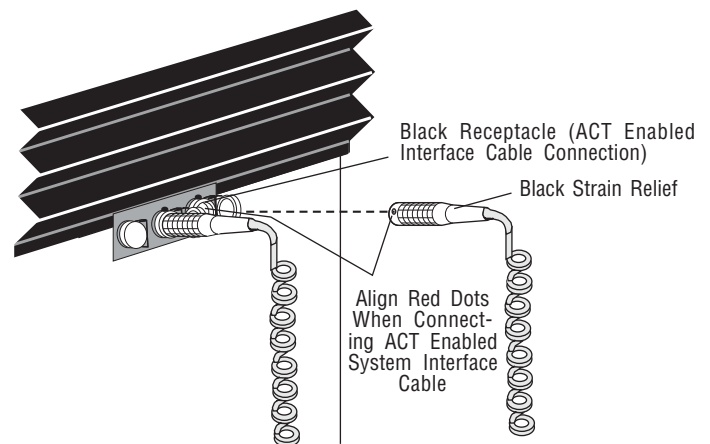

Figure 4-7. ACT Enabled System Connection
2. Connect ORCS to ACT Enabled 3085 SP table by aligning ACT Enabled interface cord black plug red dot with red dot of black receptacle on ACT Enabled table and pushing plug in to complete connection (see Figure 4-7).